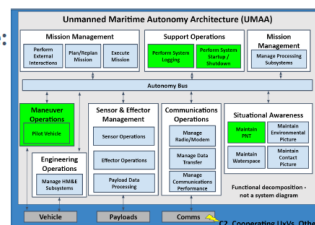

Figure 4: Supported UMAA Functions [2]
- Standardized functional framework (Figure 4)